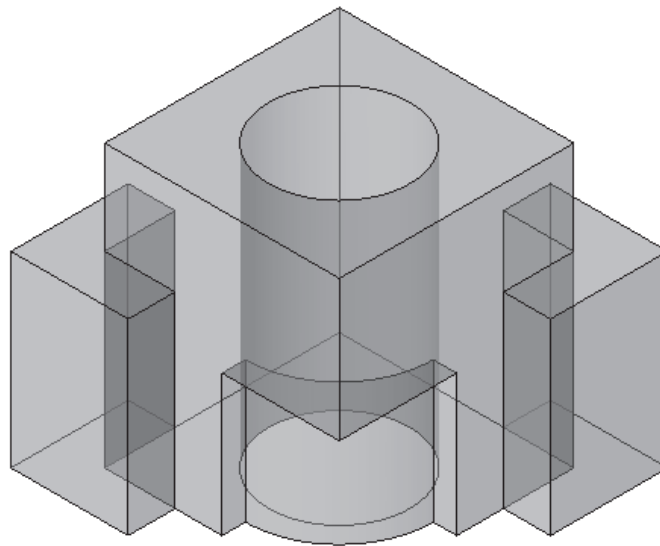

Figure 9-46 *3-D shaded view of the cut massing geometry*
20. Choose the **Default 3D View** button from the **Views** toolbar and then choose **View > Orient > Southwest** from the menu bar to view the resulting massing, as shown in Figure 9-46.